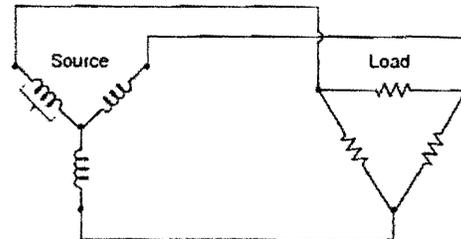

Figure D2
2. In a balanced Delta - Wye system shown in Figure D2, each load is  $1.5\text{k}\Omega$  and the phase voltage of the source coil = 7.97 kV.